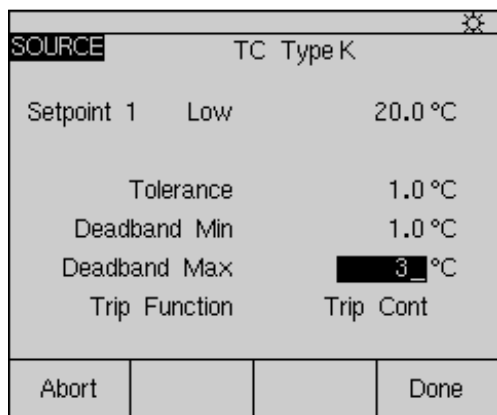

Figure 4.
6. Move the cursor to tolerance and enter a *setpoint tolerance* of "1"°C. Move the cursor to Deadband Min and enter a *minimum deadband* of "1"°C. Move the cursor to Deadband Max and enter a *maximum deadband* value of 3°C. The test setup screen should now be as per Figure 4. Depress the "Done" softkey.